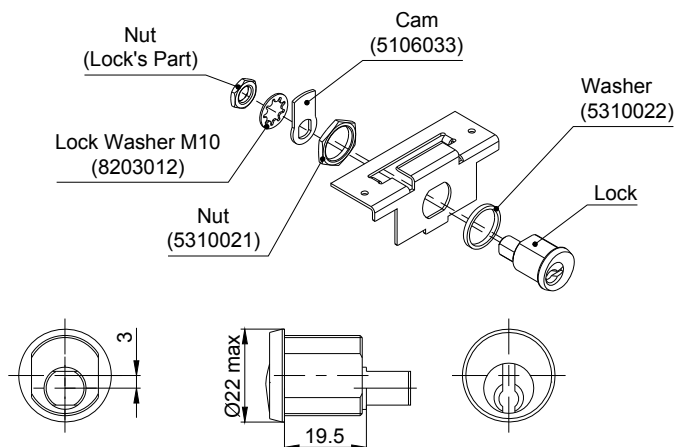

Fig. 37
- Step #5. Install the lock bracket into the dispensing cassette (Fig. 37)